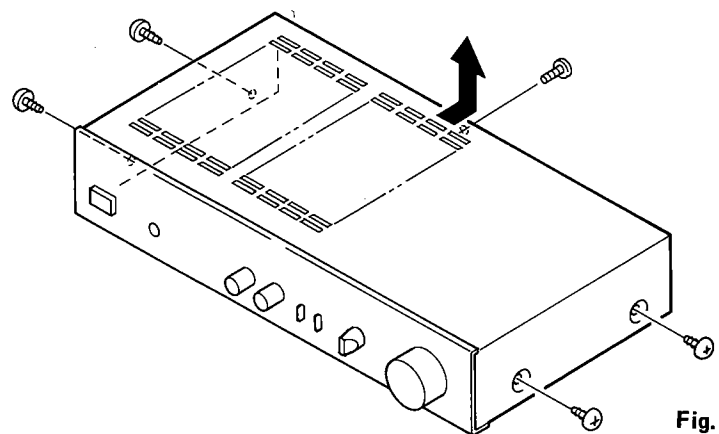

Fig. 5
1. How to remove the top cover (Fig. 5)